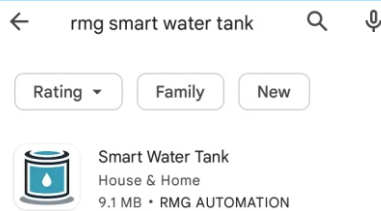

Figure 5
- Search for **“RMG Smart Water Tank”** application. (figure 5)